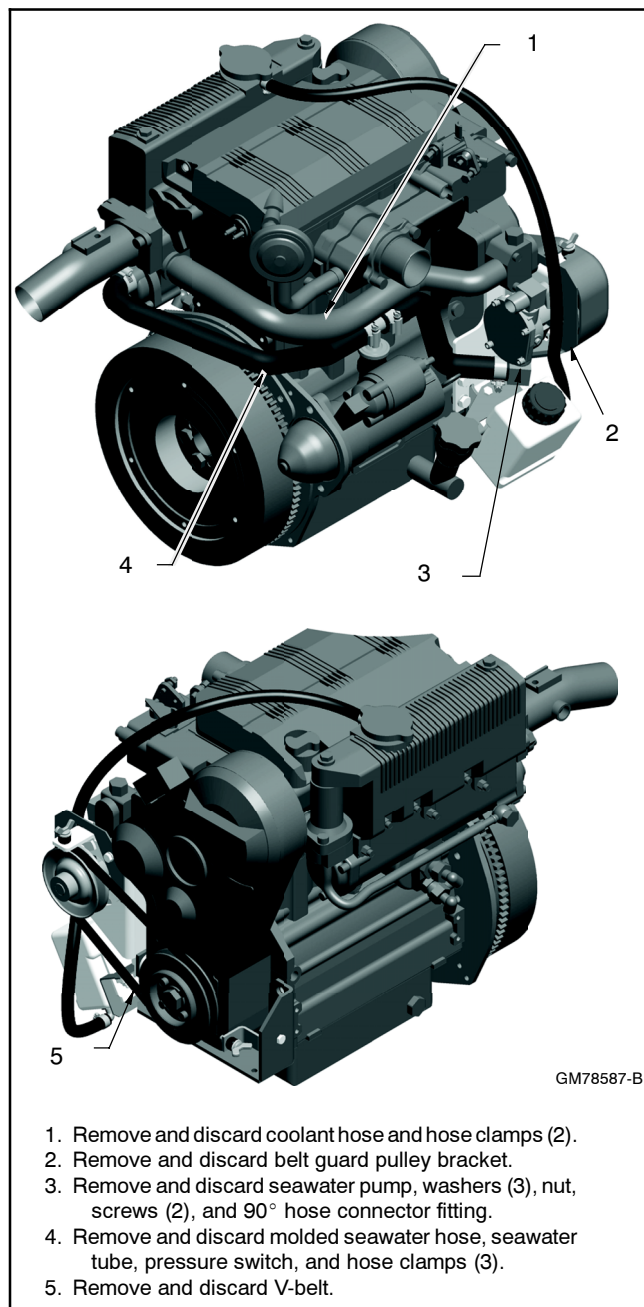

Figure 3 Assembly Drawing
- 2.6 Remove the coolant hose and clamps (qty. 2). See Figure 3, item 1.
- 2.7 Remove the molded seawater hose, seawater tube, pressure switch, and hose clamps (qty. 3). See Figure 3, item 4.
- 2.8 Remove the belt guard pulley bracket and save the hardware. See Figure 3, item 2.
- 2.9 Remove the seawater pump, washers (qty. 2), nut, screws (qty. 2), and 90° hose connector fitting. See Figure 3, item 3.
- 2.10 Remove the V-belt. See Figure 3, item 5.